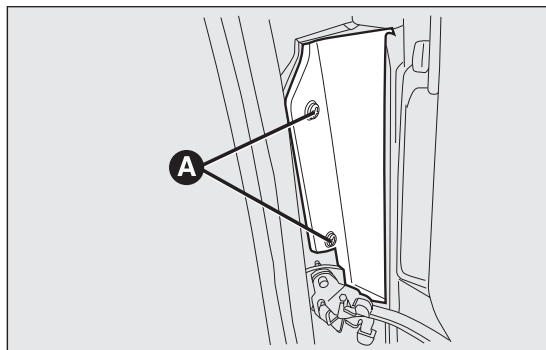
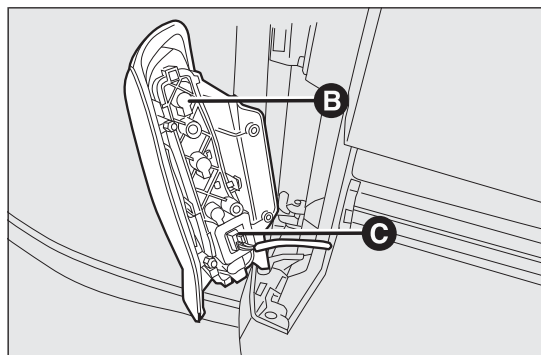

fig. 140
fig. 141
- ☐ loosen the screws **A** fig. 140 so as to access the light cluster **B** fig. 141;
- ☐ remove the connector **C** fig. 141.